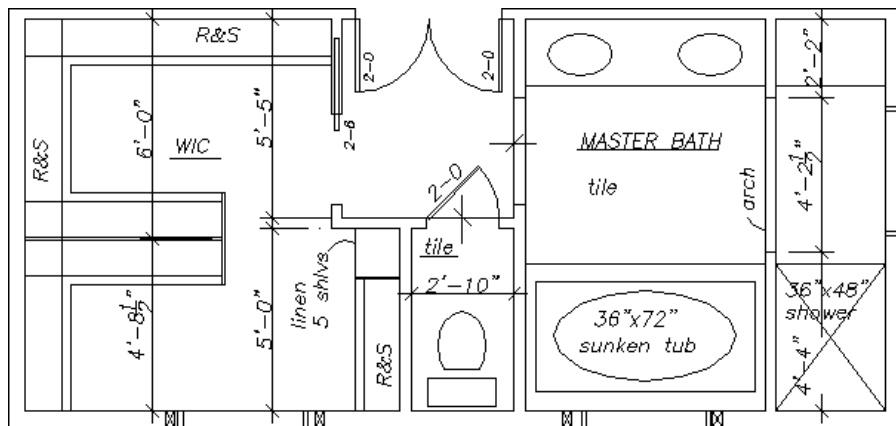

**Figure 13-6:** The master-bathroom plan drawing with added single-line text.
**5. Save your drawing. It should look like Figure 13-6.**